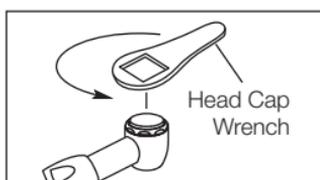

Fig. 7
- 3) Place cap wrench on the head cap and turn counterclockwise. Unscrew and separate the cap. (Fig. 7)